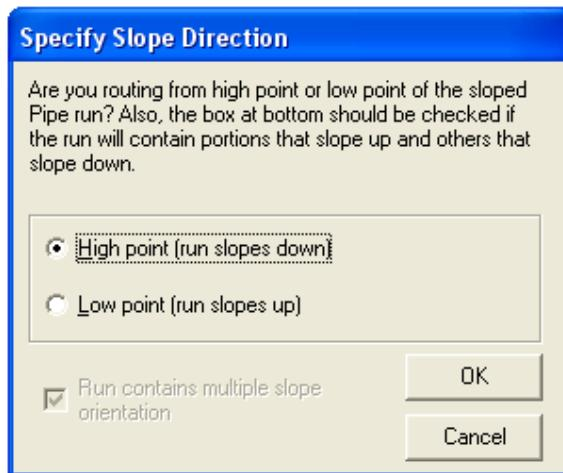

Figure 35: Specify Slope Direction Dialog Box
63. The **Specify Slope Direction** dialog box appears, as shown in Figure 35. You need to